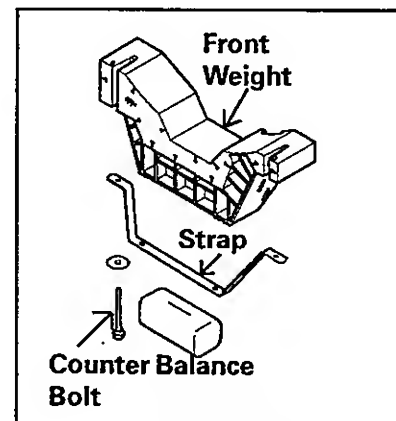

Figure 7-12
2. Remove the two bolts securing the weight to the outer tub assembly. Use a 9/16" socket (*Figure 7-12*).